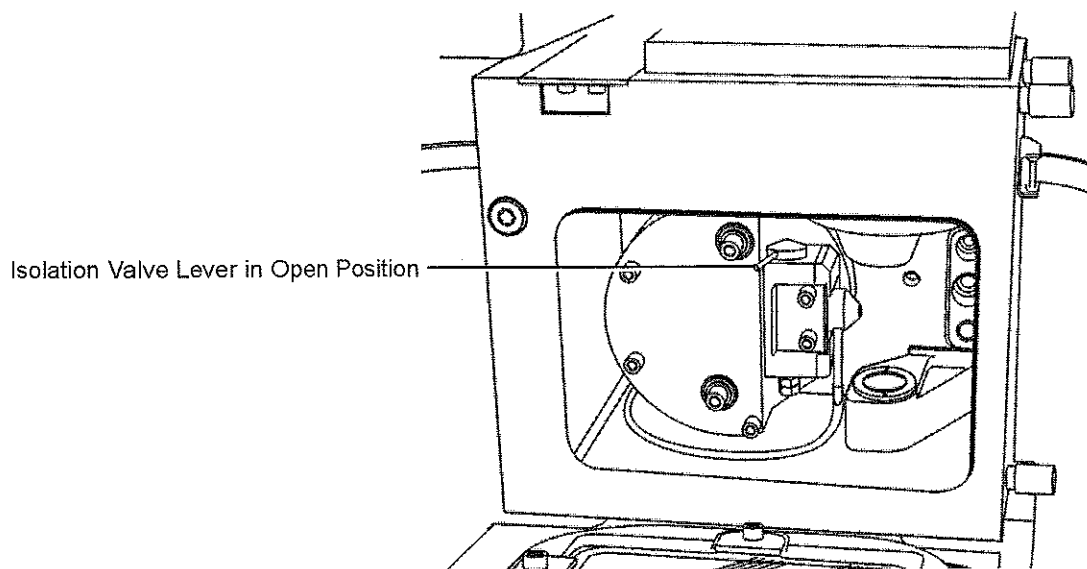

Figure 2-4 Isolation Valve in the Open Position (Source Enclosure Door Shown Open for Clarity)
3. Look through the source's view port and confirm that the isolation valve lever is fully to the left (i.e., the valve is open) (Figure 2-4).